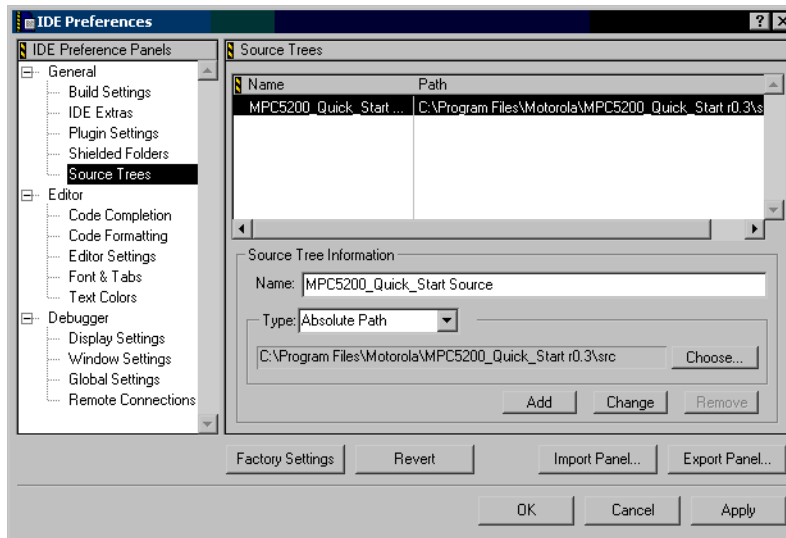

Figure 1. CodeWarrior IDE Preferences Window
2. Select the Source Trees panel on the left-hand side IDE Preferences Panels list, as displayed in Figure 1.